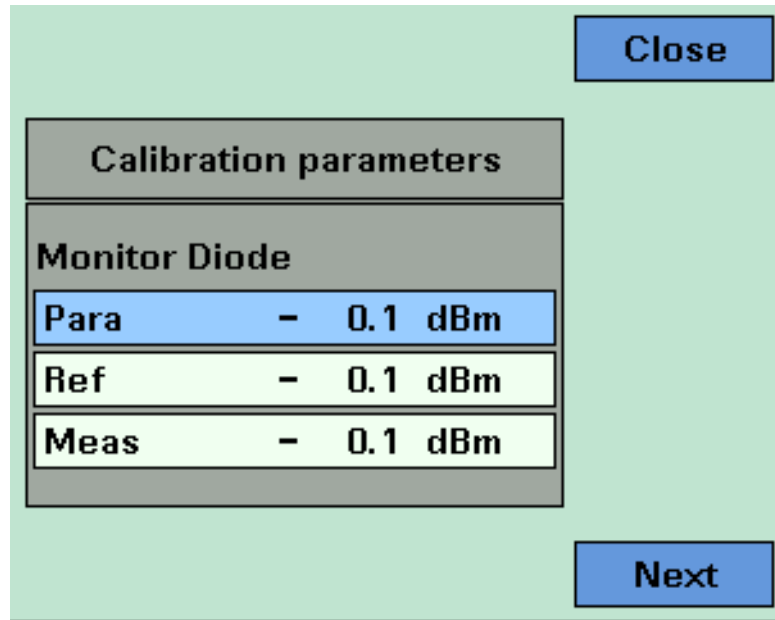

Figure 123 The Calibration Parameters Screens - Monitor Diode
- 2 Press [Next]. The *Calibration parameters* screen for the *Monitor Diode* appears, as displayed in Figure 123 on page -201. This screen shows current value for the following quantities: